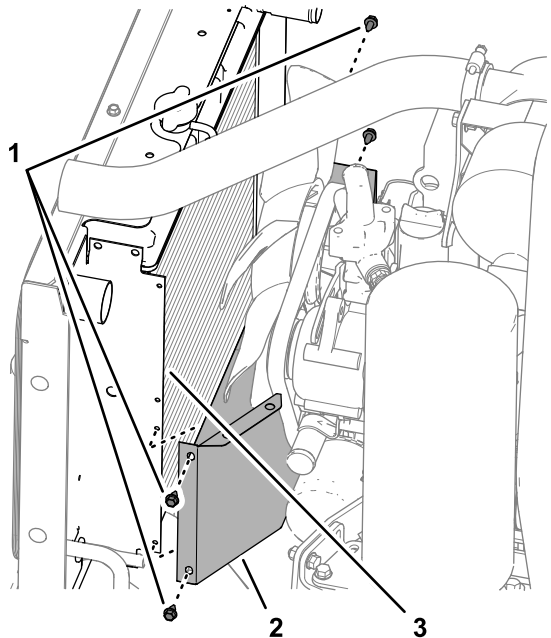

Figure 19
2. Remove the 4 flange head screws (1/4 x 1/2 inch) that secure the lower fan shroud to the flange of the radiator, and remove the shroud from the machine (Figure 19).